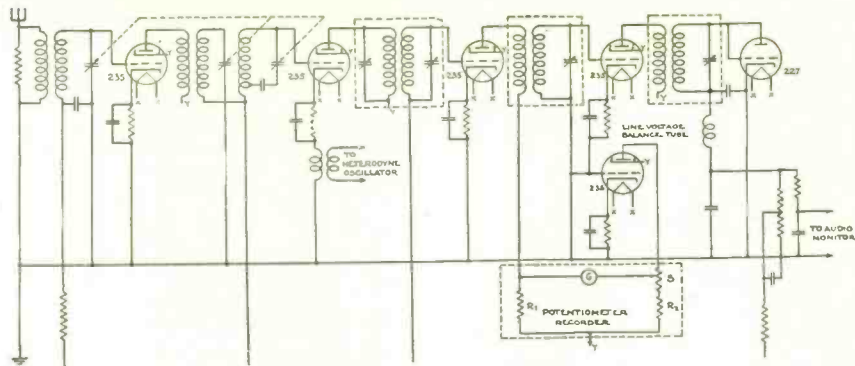

Fig. 2. Circuit of the combined receiver and recorder.
expeditions and now associated with the Radio Laboratory of the Bureau of Standards. The power supply voltage variations were thereby effectively excluded, as the ratio R_p/R_s is independent of line voltage. To obtain this independence of line voltage for this ratio of plate resistances it is not necessary that the tubes exactly match. Five percent variations in the supply voltage did not materially change the sensitivity of the receiving set, and the function as shown in (1) is independent of such variations. Fig. 2 shows the final circuit arrangement of the receiving set and recorder.
The best load impedance for Class A Prime tubes is somewhat difficult to calculate accurately. As in Class B, for a limited grid voltage the output power will be greatest when a plate load is chosen such that the product of plate voltage swing and plate current swing is a maximum. For maximum power with minimum distortion, the load resistance will decrease as the driver power is increased. In other words, with greater driving power, the plate current swing on the output tube can be increased and greater power output will consequently be developed across a smaller resistor. This again is governed by the peak current which the plate supply can deliver. It is also not desirable to use a low load resistance if the plate supply regulation is bad. All these factors are of more or less importance, depending upon the magnitude of values in the particular design. However, a general method of determining load impedance for push-pull tubes can be used where the grids are not driven very far positive. Fig. 2 shows this as applied to the 845 tubes. The published plate characteristic curve must be obtained and an operating voltage E selected. A vertical is erected at $.6E_b$, and the $E_c = E$ line is extended to meet it. A line is then drawn from this point of intersection to our point E_c . The slope of this line multiplied by 4 is the proper plate-to-plate load.
$$\text{as shown in Fig. 2. This gives } \frac{.40 \times 1250}{5} = 100 \text{ watts}$$